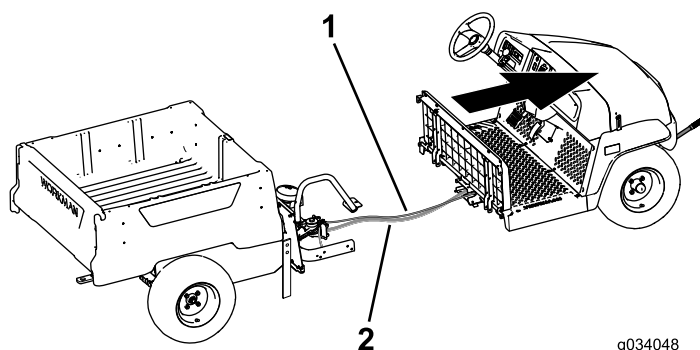

Figure 20
- Have an assistant help you move the front section forward and away from the rear section (Figure 20).